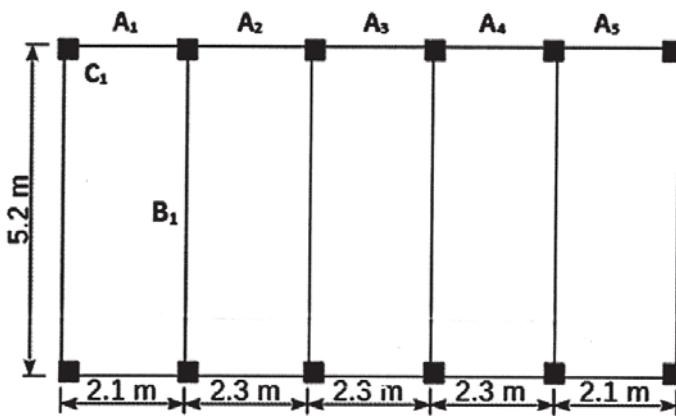

Fig. 1
Q2) a) Figure 1 shows the floor plan of a building. The beams are of size 230 mm \times 450 mm. Beam B_1 is reinforced with 4-16# bars in tension and 2-10# in compression. The load on the slab is 6 kN/m^2 . Design the beam for shear. Adopt M-25 grade of concrete and Fe-500 grade of steel. Sketch the details of reinforcement. [14]
- Q3)** a) For the floor plan shown in Fig. 1, design the continuous beam $A_1-A_2-A_3-A_4-A_5$. The total load on the slab is 5.5 kN/m^2 . Design the beam using M-20 grade concrete and Fe-500 grade of steel. Sketch the details of reinforcement. [15]
b) For the floor plan shown in Fig. 1, design column C_1 . Show how the column is oriented. The column is subjected to working load of 700 kN , working moment of 90 kN-m about major axis bisecting the depth of column. The unsupported length of column is 4.0m . The column is fixed at both the ends. Show detailed design calculations and reinforcement details. Use M-30 grade concrete and Fe-500 grade of steel. [14]